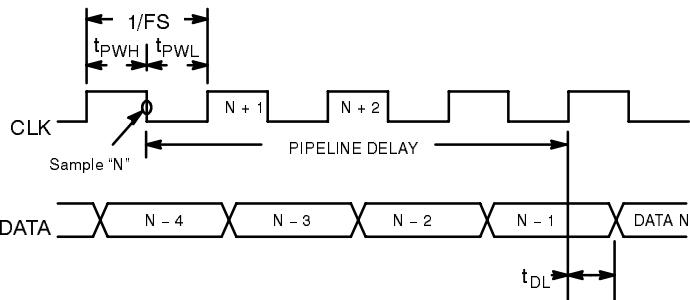

Figure 6. Data Available Timing
Clock Timing (See Figure 6). 7
A full conversion (sampling  $V_{IN}$ , converting MSB & LSB, and performing any error correction) requires four clock cycles to complete (see *Figure 6*.) The pipelined architecture allows the chip to maintain a one conversion per cycle sample rate. Digital logic combines the MSB and LSB data and performs error correction to produce 8-bit output codes.
For systems that are battery powered, the MP8786 has a power down feature to help extend battery life. When the voltage at the  $V_{RT}$  pin drops below 0.4 V, the chip goes into power down mode. In this state, conversions are halted, the outputs are 3-stated and  $I_{DD}$  drops to less than 100  $\mu$ A. Then, when the voltage at the  $V_{RT}$  pin rises above 0.9 V, the chip will power up. Note that after power up, four clock cycles are required to get valid data at the digital outputs (see *Figure 6*.) One way to achieve power down is to disconnect or disable the buffer/amp driving  $V_{RT}$  and let the internal reference resistance pull  $V_{RT}$  down. Remember, any bypass capacitors at  $V_{RT}$  will increase the time for  $V_{RT}$  to drop below 0.4 V.
2. It is important to note that op amps have inductive output impedances at high frequencies which is a consequence of the emitter impedance of the typical push-pull output stage. The resulting transient ringing should be damped by inserting a resistor in series with the ADC input – typically about 50Ω. See Figure 6. The exact value may be obtained from the op amp manufacturer's data sheet.
Refer to Figure 6. for details on the data availability timing. The digital outputs should not drive long wires or buses. The capacitive coupling and reflections will contribute noise to the conversion. The output enable pin (OE) should not be left unconnected. If it is not controlled by an active signal, it must be tied to ground.